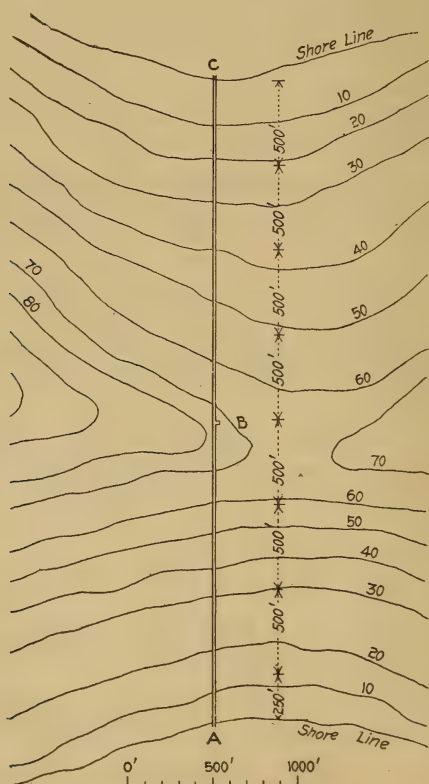

FIG. 1.
8. On the sketch below (Fig. 1), the heavy line indicates the axial location of a ship canal which is to be 300 ft. wide on the bottom, side slopes 3 to 1, depth of water 30 ft., 20-ft. berms on each side 6 ft. above the water. Plot on the sketch the plan of the completed cut, give a cross-section at *A*, *B* and *C* and figure the volume of excavation between *A* and *C*.